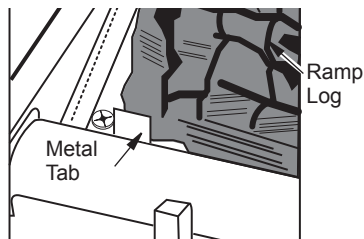

Figure 23 - Installing Log Set
- The log must sit flat on the black sheet metal and behind the left metal tab as shown in Figure 23.